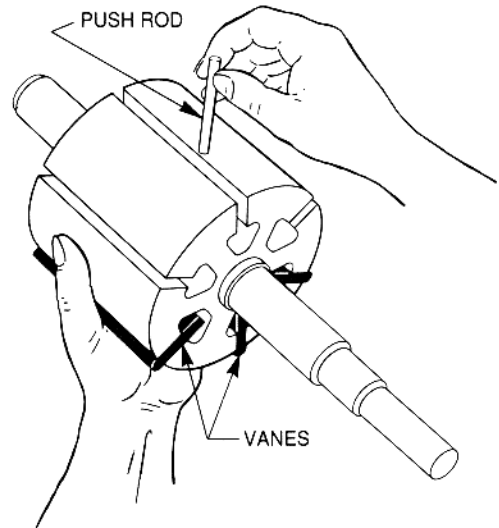

Figure 4 - Push Rod Installation*
- b. Hold the vanes in place while inserting the push rods (77) from the top, as shown in Figure 4.